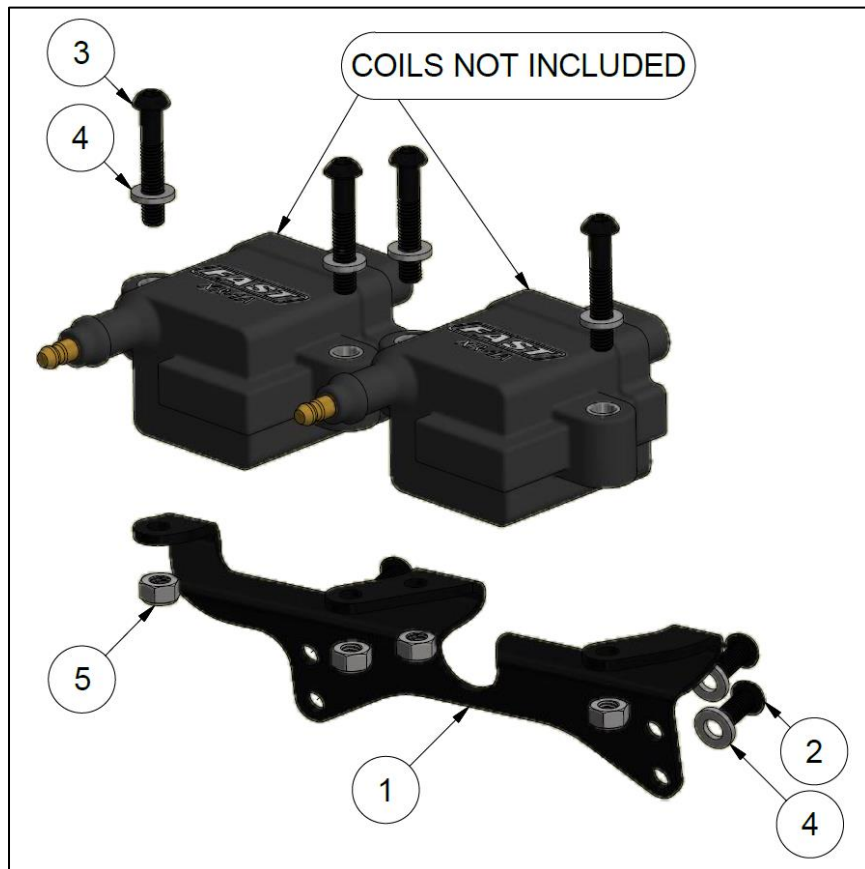

Figure 1 - P/N 290-XR-KIT Illustrated Parts List
3. Using the exploded view in *Figure 1* as a guide, assemble the COMP Cams® XR-1A Coil Mounting brackets with your ignition coils before attaching brackets (Item 2) to the valve cover.